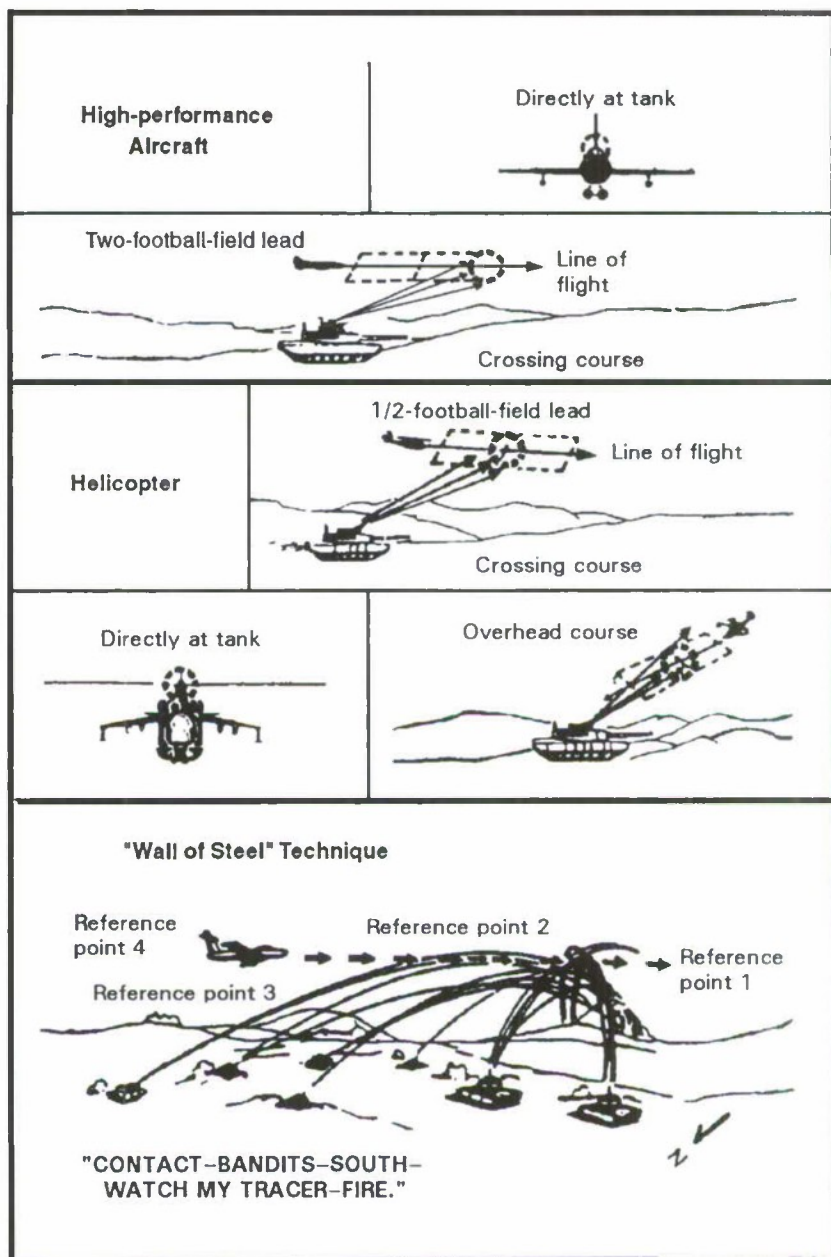

Figure 3-18. Machine gun aim points.
- Step 1. The platoon initiates fire. The primary intent is to force aircraft to take self-defense measures that alter their attack profile and reduce their effectiveness. The platoon leader may use a burst of tracers to designate an aim point for platoon machine gun antiaircraft fires (see Figure 3-18). Volume is the key to effectiveness of these fires; tanks throw up a “wall of steel” through which aircraft must fly. The main gun is effective against hovering attack helicopters. The platoon leader may also direct some vehicles to engage high-performance aircraft with MPAT main gun rounds.